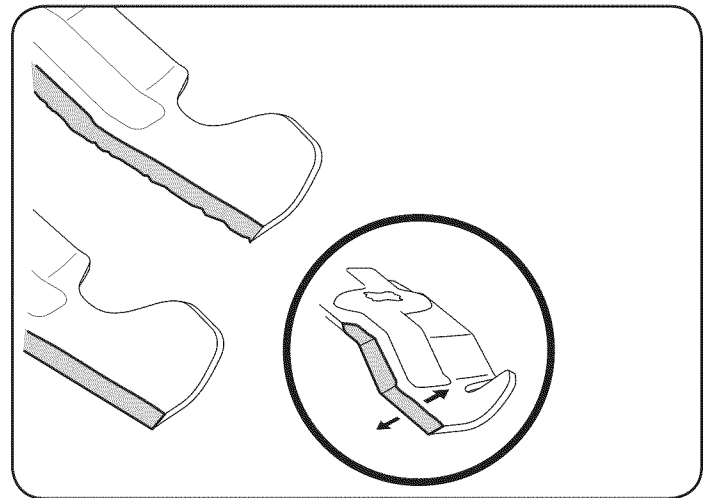

Figure 21
4. To properly sharpen the cutting blades, remove equal amounts of metal from both ends of the blades along the cutting edges, parallel to the trailing edge, at a 25° - to 30° angle. Always grind each cutting blade edge equally to maintain proper blade balance. See Figure 21.